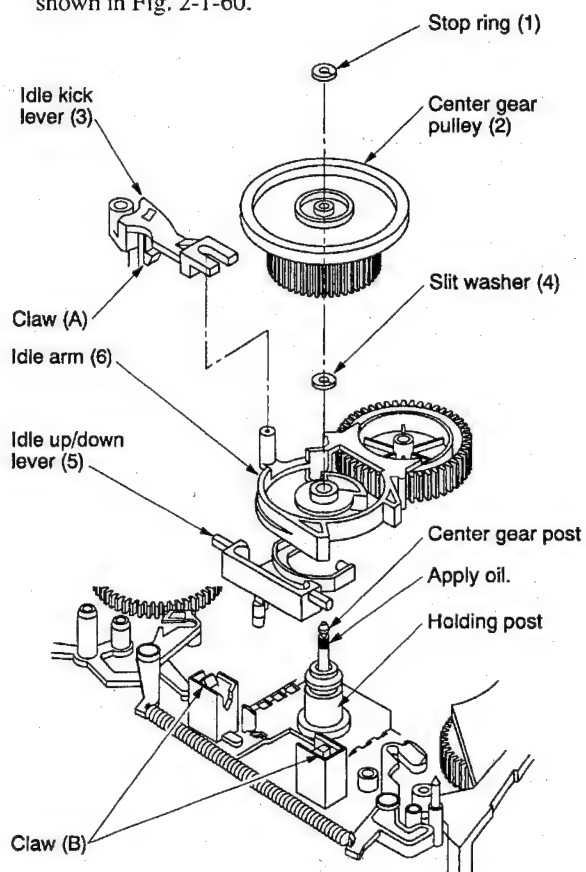

Fig. 2-1-59
- When mounting, push the cutout (A) on the holder center post assembly (2) aligning with the projection on the mechanical deck.
- Before mounting the center gear pulley, apply a few drops of oil. (Refer to Fig. 2-1-59.)